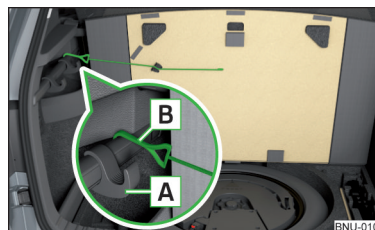

Fig. 143
- › Move the front hook **A** as far forward as possible and fold it down as far as it will go » Fig. 143.